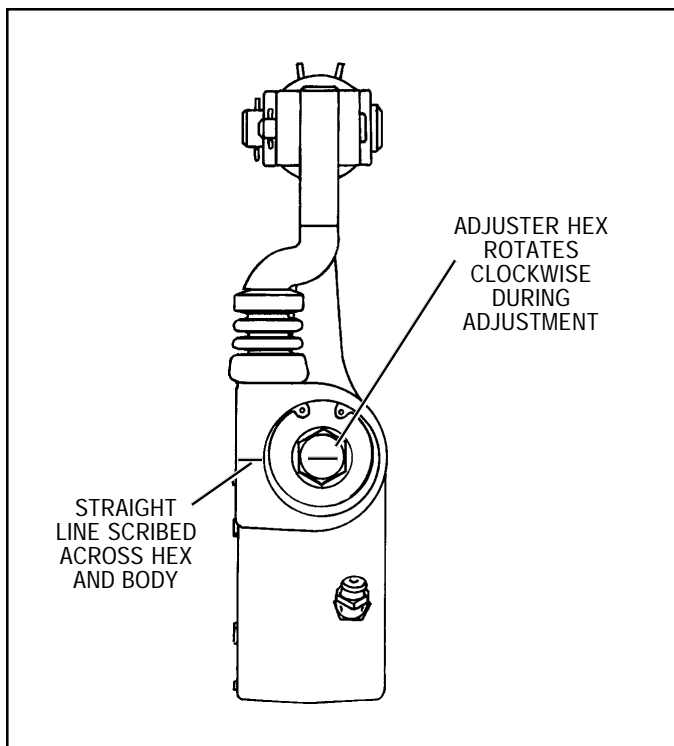

FIGURE 6 - TESTING ADJUSTER MECHANISM
2. Using a straight edge, scribe a line across the manual adjustment hex head and slack adjuster body. (Refer to Figure 6).